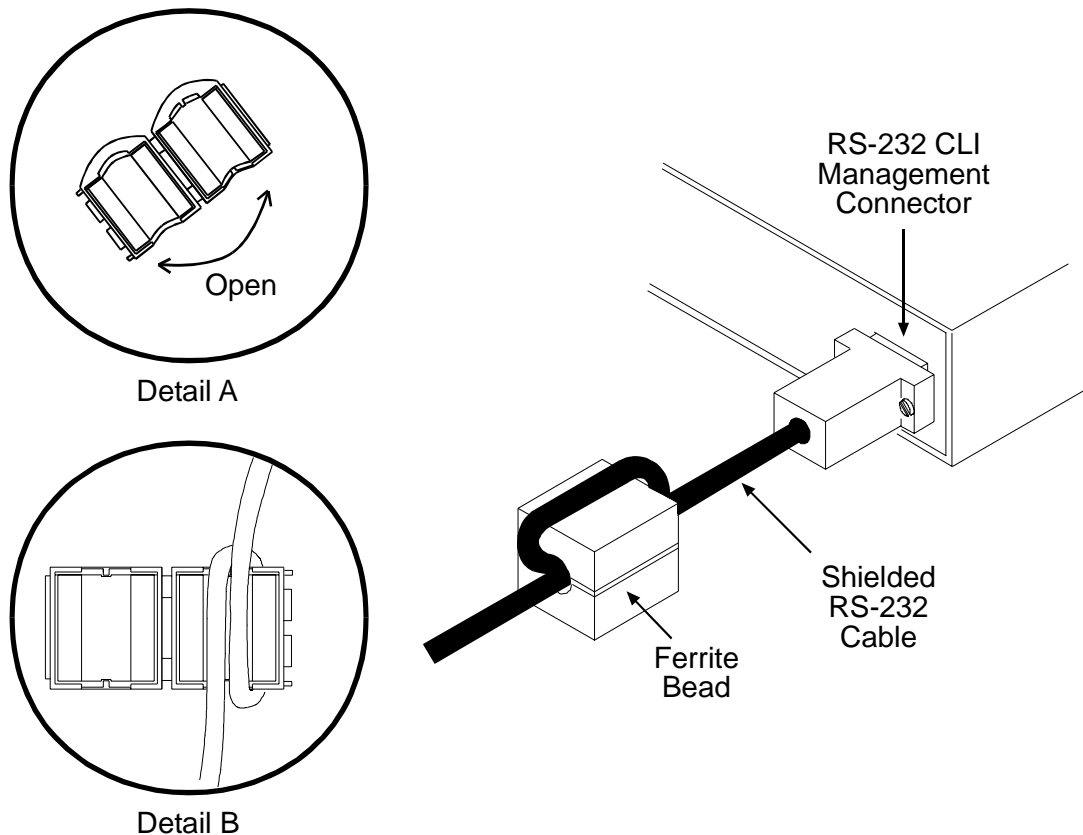

Figure 6-10. Attaching Ferrite Bead RF Suppressor
2. Open the snap-on ferrite beads along hinge cover (see Detail A in Figure 6-10).